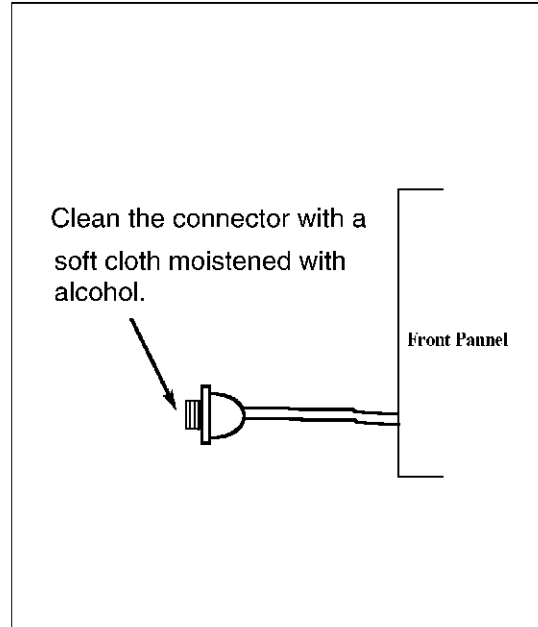

Figure 1-6 Connector Cleaning (4)
- (4) Clean the connector with a soft cloth moistened with alcohol. Take care not to damage the connector. (See Figure 1-6.)
- (5) Engage the cleaned connector with the receptacle and tighten the screw.
- (6) Attach the receptacle to the front panel and fix it with the two screws.